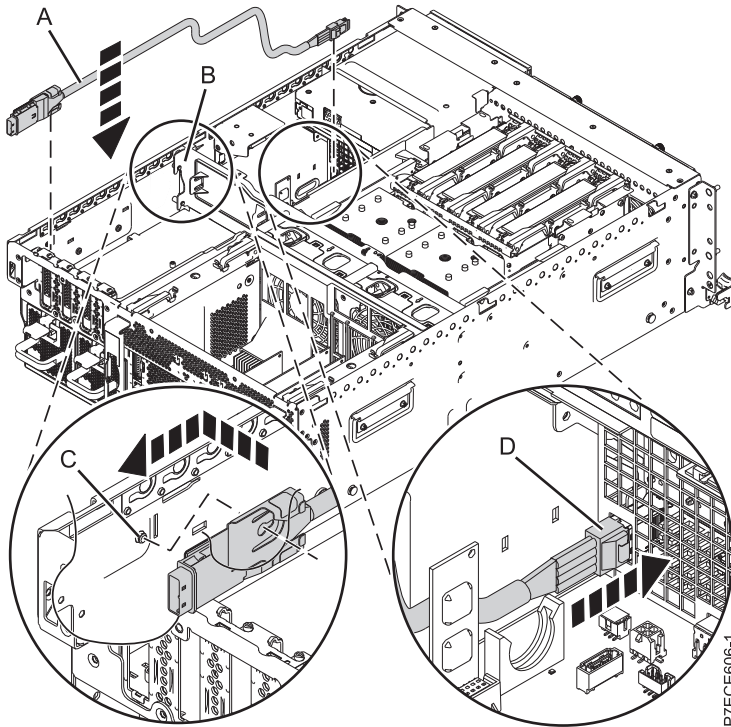

Figure 39. Replacing the SAS cable
3. Connect the SAS shroud of the SAS cable (**A**) to the external SAS connection port on the system backplane, at the rear of the system, until it snaps in place, as shown in Figure 39 on page 92.